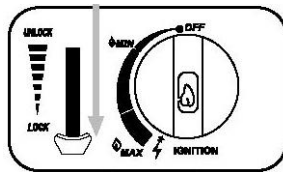

Fig. 1
2. Open the cover (3) and place the gas cartridge with the nozzle forwards so that the guide pin fits into the guide slot.
3. Lower the locking lever to the LOCK position and turn the gas regulator to OFF (fig. 1)